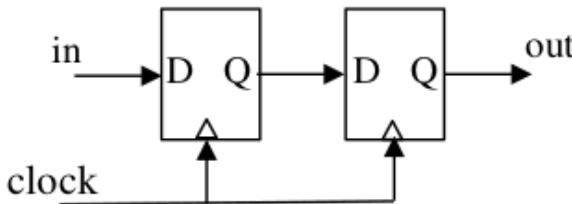

Fig. 5.5
5. Consider the sequential circuit shown in Fig. 5.5, where both flip-flops used are positive edge-triggered D flip-flops. The number of states in the state transition diagram of this circuit that have a transition back to the same state on some value of “in” is _____.